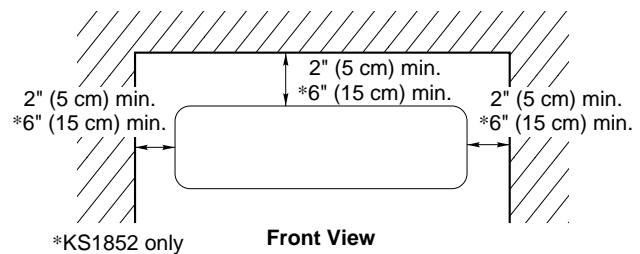

Fig. 2
- allow room for operation and maintenance as well as unrestricted air flow around the unit. (Fig. 2)